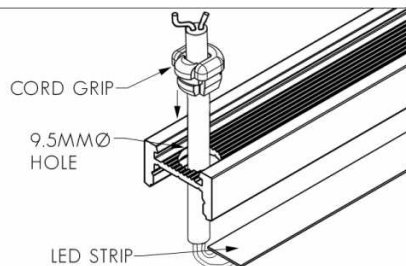

FIG. 2 - MAKE ELECTRICAL CONNECTION
4. MAKE ELECTRICAL CONNECTION: CONNECT LED STRIP TAILS TO LED DRIVER (SEE FIG. 2 IF SUPPLIED WITH MALE/FEMALE CONNECTORS).